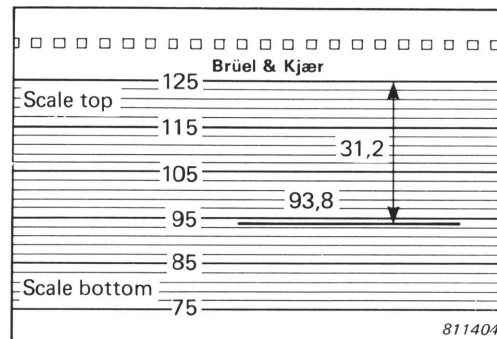

Fig. 4.2. Calibration of the Level Recorder Type 2306
7. Start the Sound Level Calibrator and adjust the SENSITIVITY knob of the Level Recorder to obtain a pen deflection of 31,2 dB below full scale line of the recording paper (see Fig.4.2).